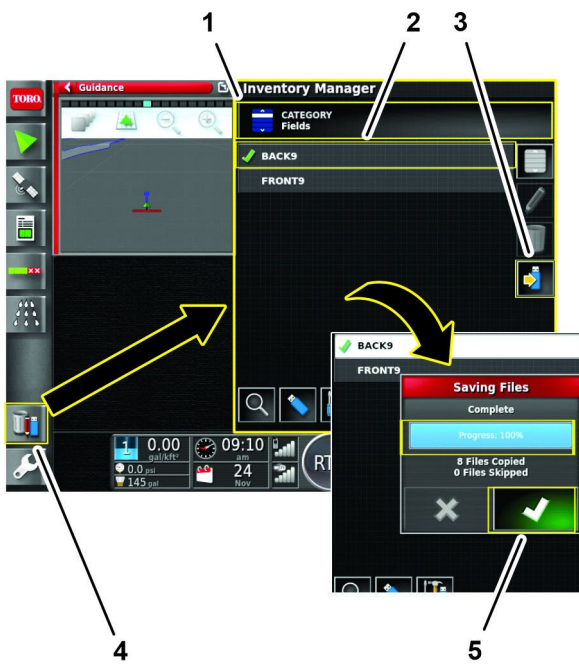

Figure 70
2. Press the INVENTORY MANAGER icon, press the CATEGORY TYPE icon (Figure 70).
4. Press the FIELD icon for the boundaries that you are merging onto machine #1, press the SAVE SELECTION TO USB icon, and press the confirm icon (Figure 70).